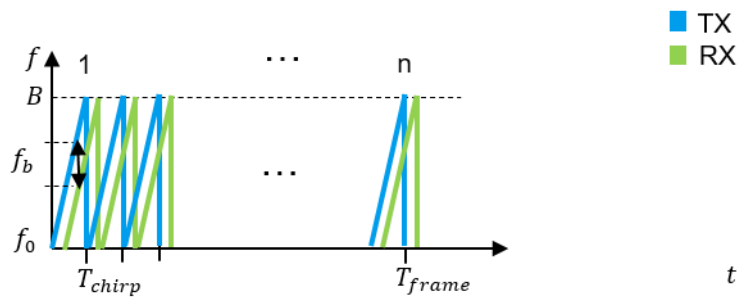

Fig. 1-4: Chirp Sequence
The other common signal waveform is a continuous wave type with very fast chirps. This waveform is called Chirp Sequence (CS) and consists out of several very short FMCW chirps each with a duration of T_{chirp} transmitted in a block of length T_{frame} (see Fig. 1-4). Due to the fact that a single chirp is very short, the beat frequency f_b is mainly influenced by signal propagation time (Doppler frequency shift f_D can be neglected in the first processing step).